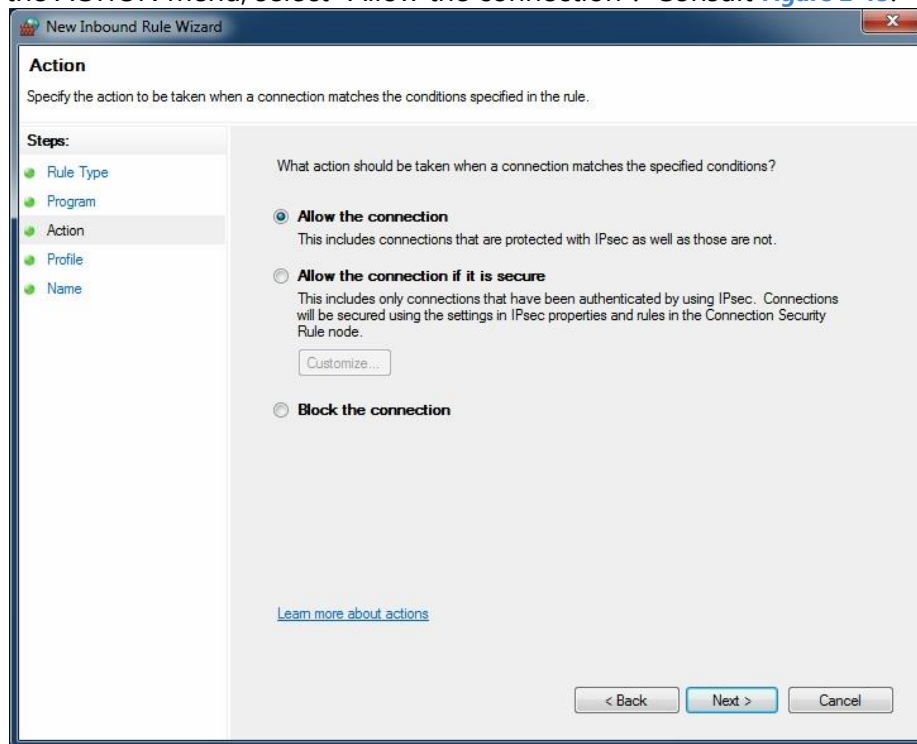

Figure 2-13 Windows Firewall – Advanced Security New Rule: Allow Connections
Step 8: On the ACTION menu, select "Allow the connection". Consult Figure 2-13.